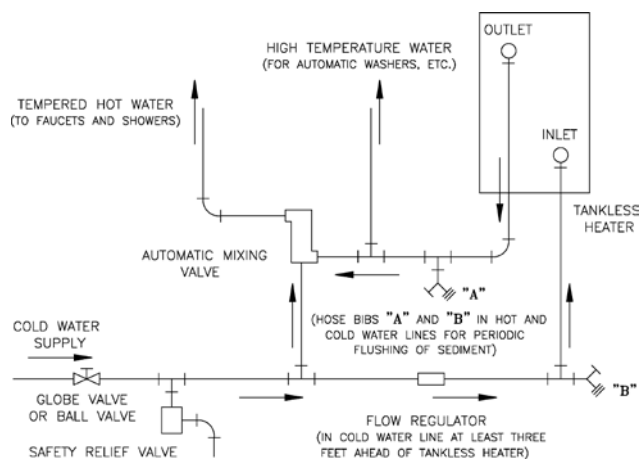

Figure 15: Schematic Tankless Heater Piping
J. CONNECT TANKLESS HEATER PIPING AS SHOWN IN FIGURE 15. See Table 4 for Tankless Heater Ratings.